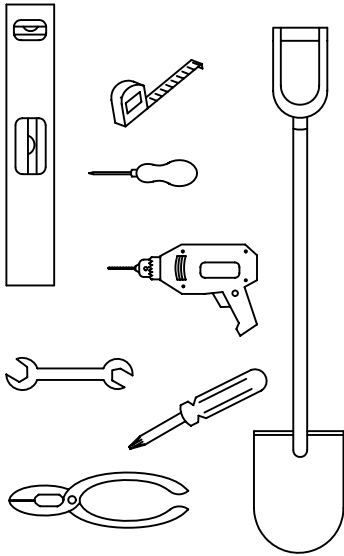

FIG. 1
- 1. WEATHER WARNING ! DO NOT ERECT YOUR BUILDING ON A WINDY DAY. ANY BUILDING LEFT PARTIALLY CONSTRUCTED MAY BE SERIOUSLY DAMAGED (FIG.1).**
- 3. ALL ASSEMBLY OPERATIONS MUST TAKE PLACE ON A COMPLETELY LEVEL SURFACE (FIG. 1)**
- 1. TEMPÊTE DE VENT: NE JAMAIS MONTER VOTRE ABRI PAR GRAND VENT. NE PAS LAISSER UN ABRI PARTIELLEMENT MONTÉ, LES PIÈCES POUVANT ÊTRE ENDOMMAGÉES (FIG. 1).**
- SURFACE PLANE (fig 1).**
- 1. AVISO DE TEMPESTADE! NÃO PROCEDA À MONTAGEM DO SEU ABRIGO NUM DIA VENTOSO. QUALQUER ABRIGO DEIXADO PARCIALMENTE MONTADO PODE FICAR SERIAMENTE DANIFICADO (FIG. 1).**
**3. TODAS AS OPERAÇÕES DE MONTAGEM DEVEM SER EFECTUADAS NUMA SUPERFÍCIE COMPLETAMENTE NIVELADA (FIG. 1).**
**CUALQUIER COMPONENTE QUE QUEDE A MEDIO MONTAR PUEDE SUFRIR DAÑOS IMPORTANTES. (FIG. 1).**
**3. TODAS LAS OPERACIONES DE MONTAJE DEBEN DE REALIZARSE SOBRE UNA SUPERFICIE TOTALMENTE PLANA Y AL MISMO NIVEL. (FIG. 1)**